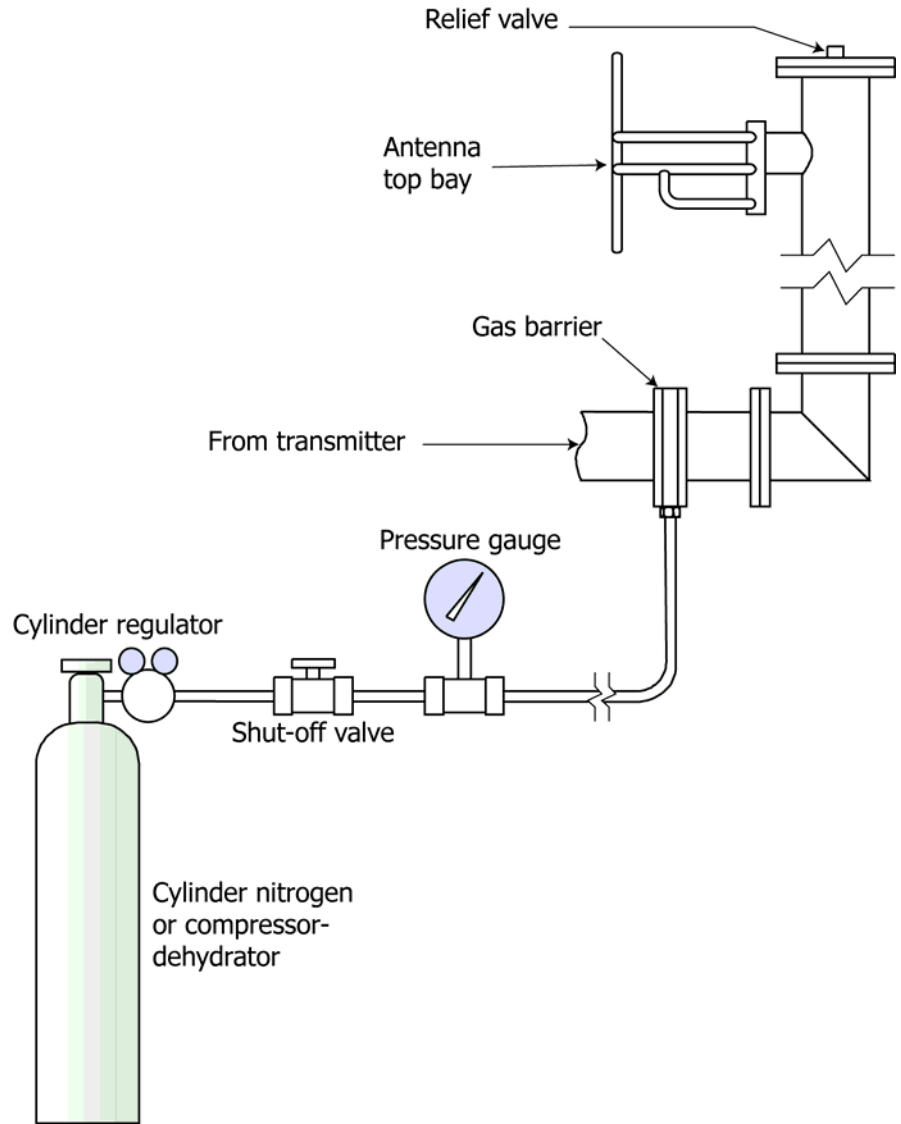

Figure 14. Pressurized gas schematic
- a. Connect a source of dry gas (cylinder nitrogen or air from a compressor-dehydrator) to the system as shown in Figure 14 on page 28.
- d. Connect a source of dry gas (cylinder nitrogen or air from a compressor-dehydrator) to the system as shown in Figure 14. Raise the gas pressure to 12 or 13 psig (83 - 90 kPa).